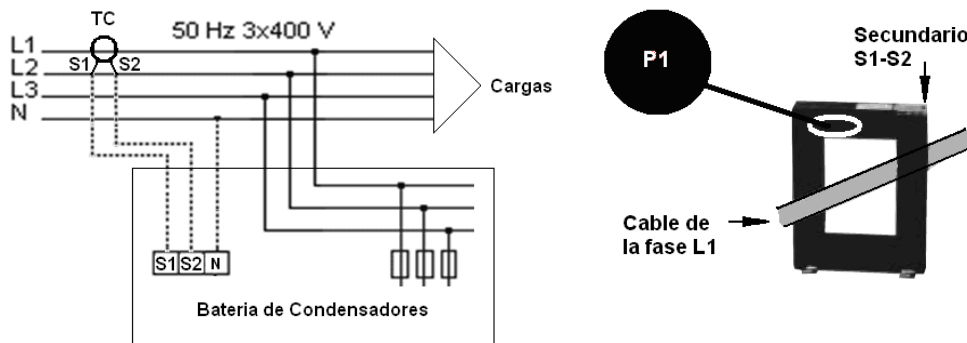

Fig. 5-1 .- Installation of the current transformer (CT) (external)
**A current transformer (CT), external to the capacitor bank, must be installed to measure the total of load current plus the capacitor bank current (see Fig. 5-1).**
The standard transformer must have a nominal output of 5A at the secondary. We recommend connecting the CT to phase L1, with the cable running from line to load in the direction P1 to P2, and connecting the secondary (terminals S1, S2) to the terminals with the same name on the capacitor bank (see Fig. 5-1). Avoid the flow of current through the CT's primary (P1-P2) before connecting the secondary side to the capacitor bank's S1 and S2 terminals. If the CT must be installed while the installation is running, short-circuit S1 and S2 while they are not connected to the capacitor bank.